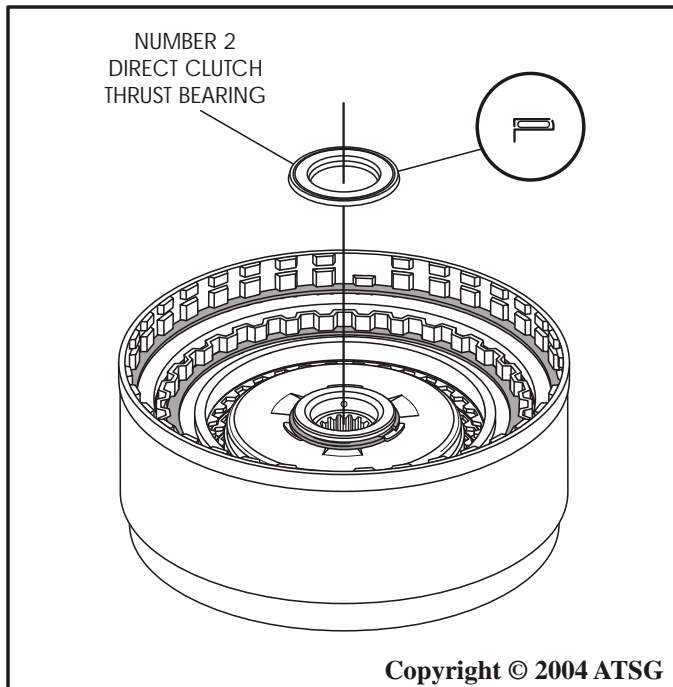

Figure 86
3. Install the number 2 direct clutch thrust bearing onto the direct clutch housing, in the direction shown in Figure 86, and retain with a small amount of Trans-Jel®.